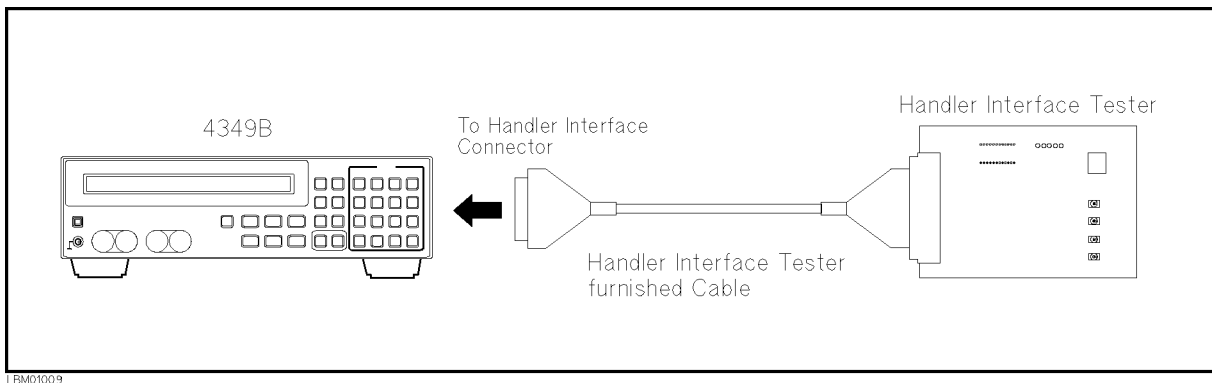

Figure 9-10. Handler Interface Functional Test Setup
3. Set up the equipment as shown in Figure 9-10